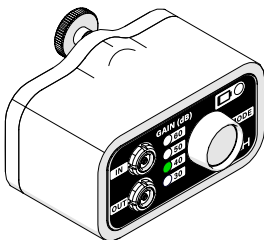

Fig. 31 - GAIN light illuminates when power is on
2. The GAIN setting last selected will become illuminated, indicating the preamp has been turned on (*Fig. 31*).